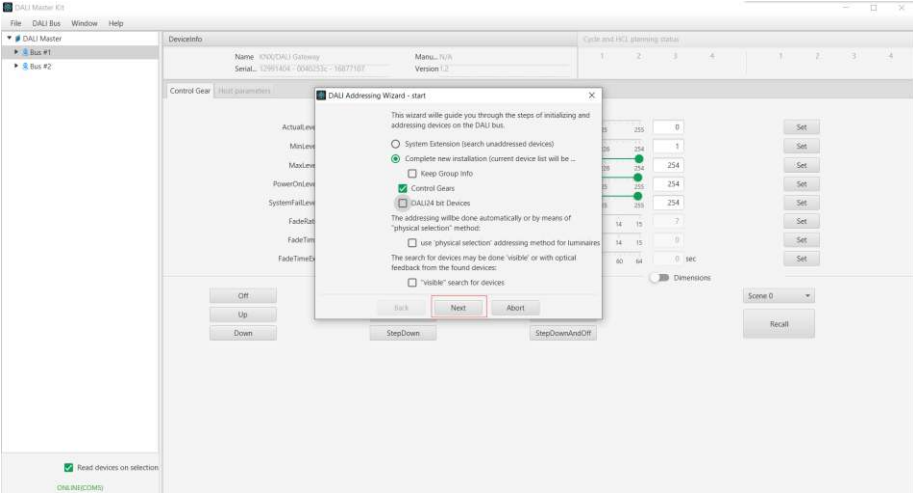

Figure 3
2.3. The DALI addressing setting window will pop up, if it is totally new installation, just choose “Complete new installation” and tick to choose “Control Gears” and leave other options not chosen, then click on “Next” to start addressing as shown in Figure 3.